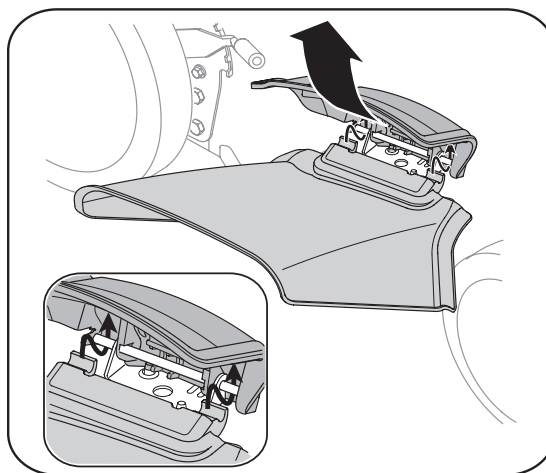

Figure 3-6
- Slide two hooks of side discharge chute under the hinge pin on the mulching plug assembly and lower the side mulching plug. See Figure 3-6.